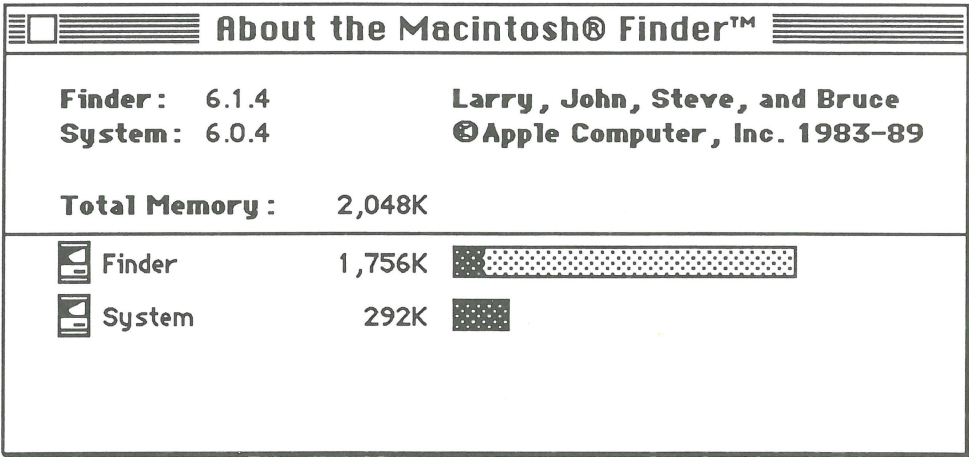

FIGURE 8
3. **Figure 8-A.** Locate the RAM expansion connector. Note whether the connector has a notch. If it does, a pseudostatic card must be used. Do not install a tabless, 1 MB RAM Expansion Card.
4. **Figure 8-B.** Position the card over the connector and plug the card in.
2. **Figure 8-C.** Pull down the Apple menu and select **About the Finder**.